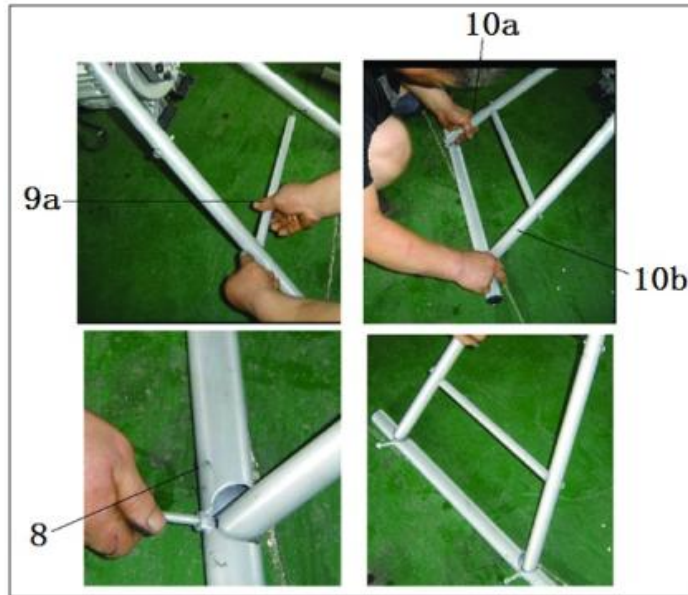

fig.3
b) Connect horizontal shaft (9a) to front stand(10a&10b) with screws, then assemble horizontal leg(8) and fix it to front stand(10a&10b) by bolts (fig.3).